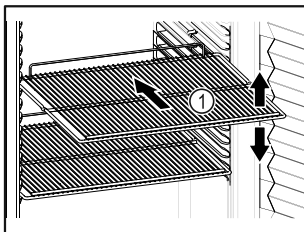

Fig. 75 Example illustration
- If there are adjustable shelves Fig. 75 (1), position them as required.